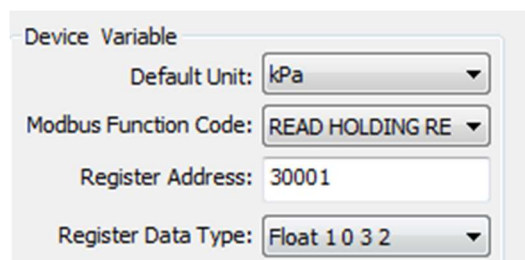

Figure 5.66 Register Data Type Selection
1. Select "Detailed Design"-"Sensor"-> drop-down box corresponding to "Register data Type", as shown in Figure 5.66